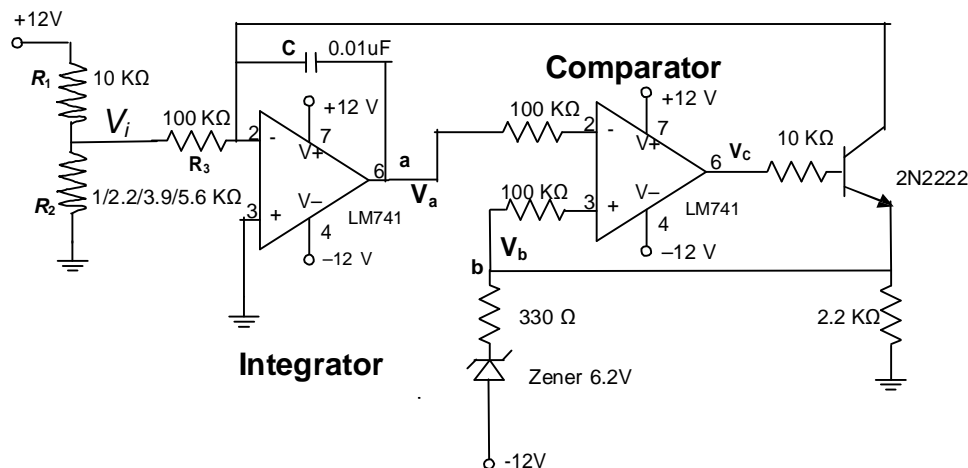

Fig. 1
The circuit shown in Fig. 1 is of Voltage to Frequency converter
1. Connect the circuit as shown in Fig. 1 with $R_1 = 10\text{ k}\Omega$, and $R_2 = 1\text{ k}\Omega$. Make sure the power supply ground is connected to the circuit ground.